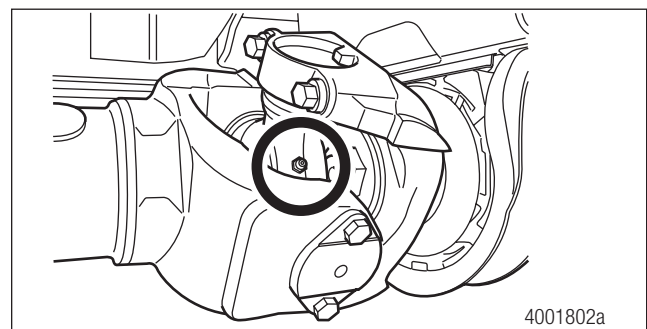

Figure 13.4
1. Check that all grease fittings are installed. Replace missing or damaged fittings with the correct type and size as specified in PB-9895, Meritor Aftermarket Driveline Components. Tighten them to 6 lb-ft (8 Nm). Figure 13.4.